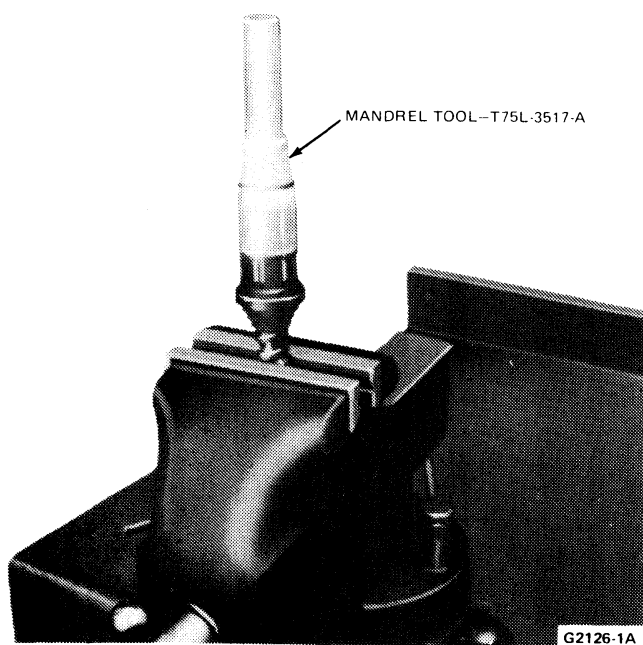

FIG. 13 Mandrel Installed on Sleeve
3. Install mandrel Tool T75L-3517-A1 over the sleeve; slide one valve sleeve ring over the tool (Fig. 13).